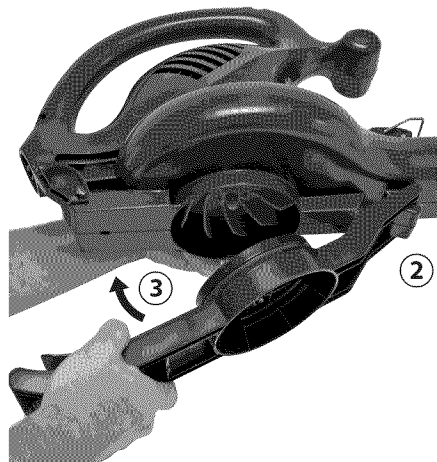

Figure 3-3: Attaching bottom inlet cover to motor housing hook
2. Position front of bottom inlet cover over motor housing hook (see Figure 3-3).